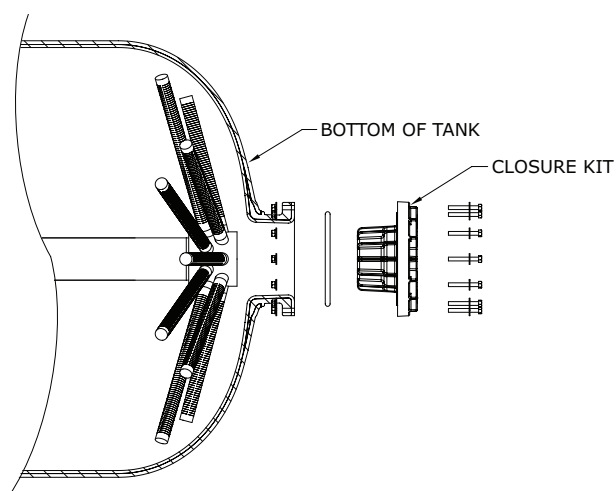

Figure 6. Bottom of tank with closure kit.
8. Close off the bottom of the tank with the closure kit. See Figure 6.